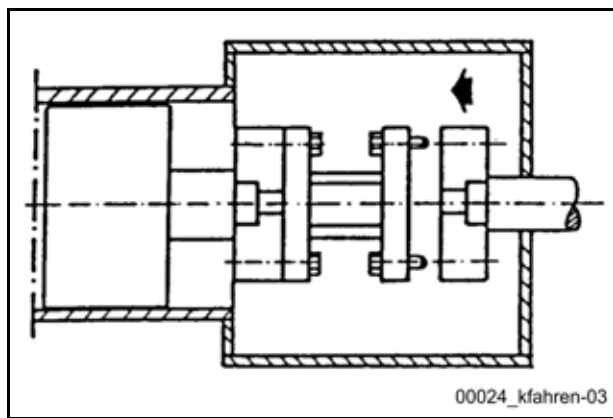

Fig. 362 Insert distance piece
- Insert the distance piece and screw it onto the pumping piston (**Fig. 362**).